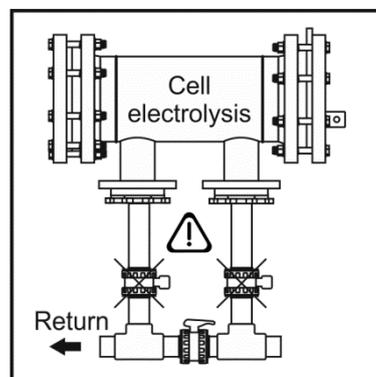

Fig. 5
2. The system flow detector activates if there is not recirculation (flow) of water through the cell or if flow is very low, **always that the inlet and outlet valves are open**. If the detector is closed, the detector will not function. (See Fig 5). If electrolysis gases are not properly removed through the electrolysis cell, the generated gas bubble electrically isolates the auxiliary electrode (electronic detection). Therefore, when locating the electrodes in the cell, the level sensor (auxiliary electrode) will have to be located in the higher area of the cell. The safest orientation is shown in the recommended installation diagram.